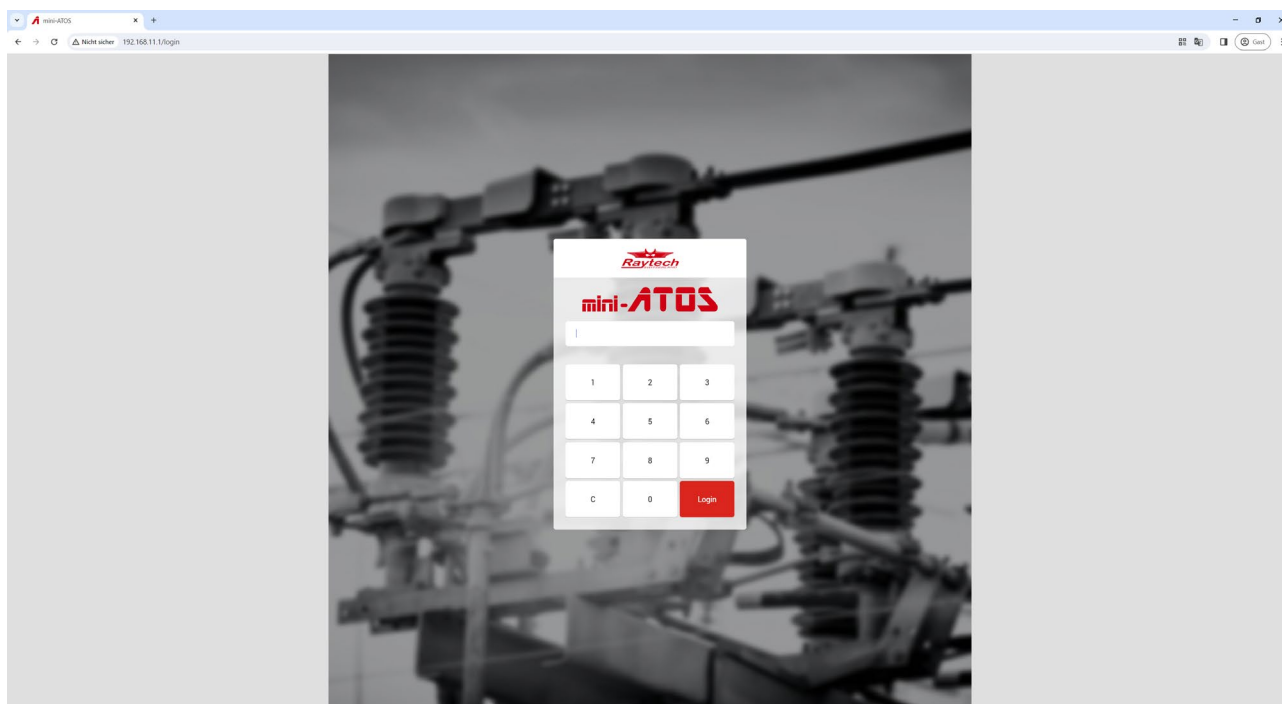

Figure 120: Remote access login page
- 6- Enter the access key and confirm to access the software (Figure 120)